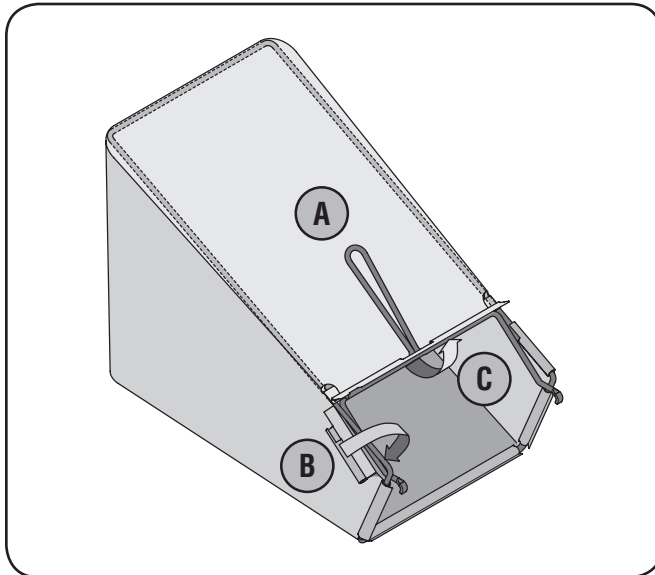

Figure 3-3
- Slip plastic channel of grass bag over hooks on the frame. See Fig. 3-3. All the plastic channels except center top of bag attach from outside of bag.